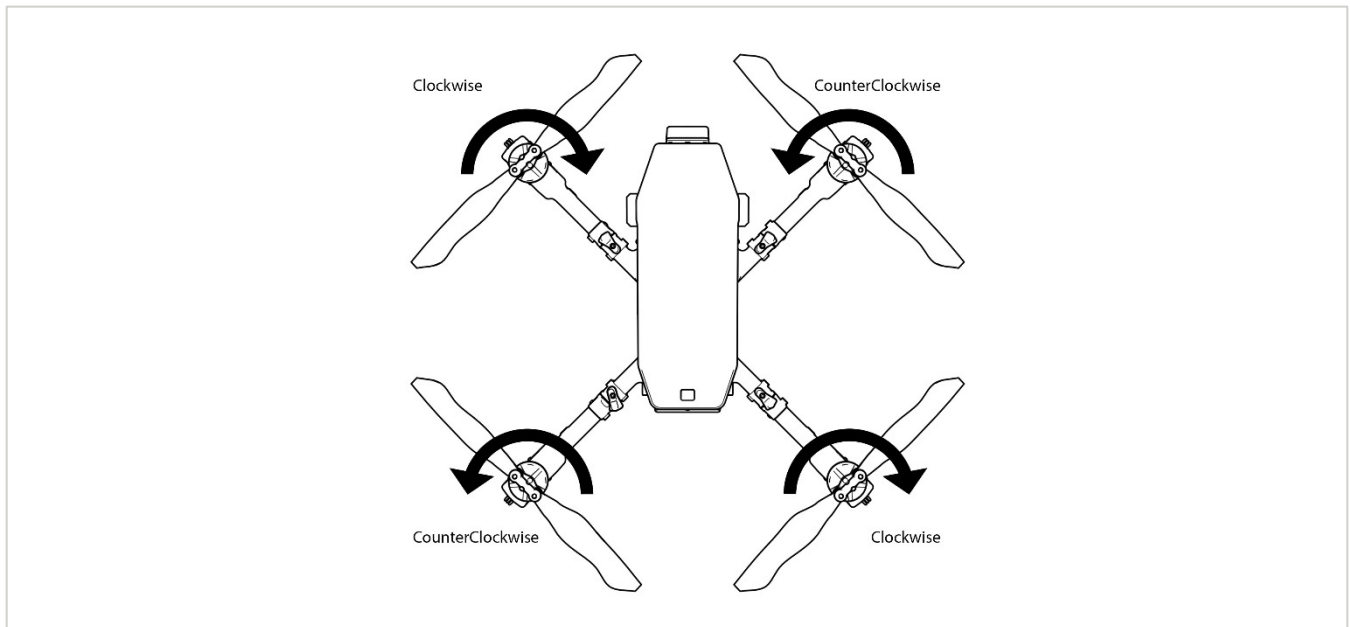

FIGURE 6.A PROPELLER ROTATION ORIENTATION (TOP VIEW)
The SIRAS aircraft uses foldable carbon-fiber-reinforced nylon propellers installed on the aircraft. The motors will spin two propellers in a clockwise (CW) direction and two in a counterclockwise (CCW) direction. Each propeller is labeled with the correct direction of rotation (CW or CCW). When replacing the propellers, refer to Figure 6.A for correct orientation.